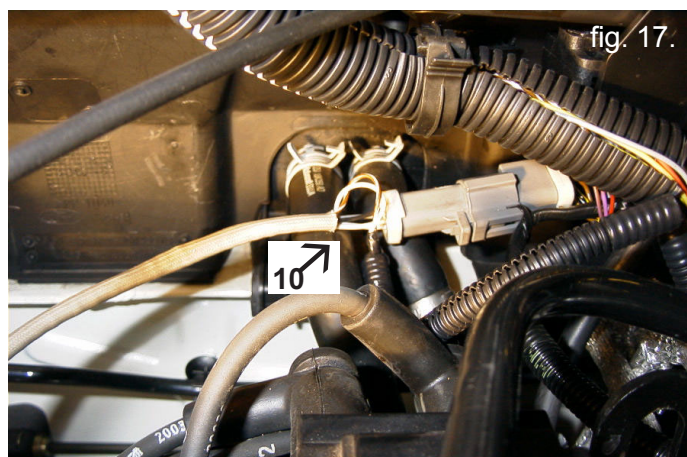

fig. 17.
10. Lambda signal. Connect the signal wires to the Lambda sensor connector located centrally on the bulkhead. See fig 17. The white wire is connected to the black wire and the brown/white wire is connected to the grey wire.